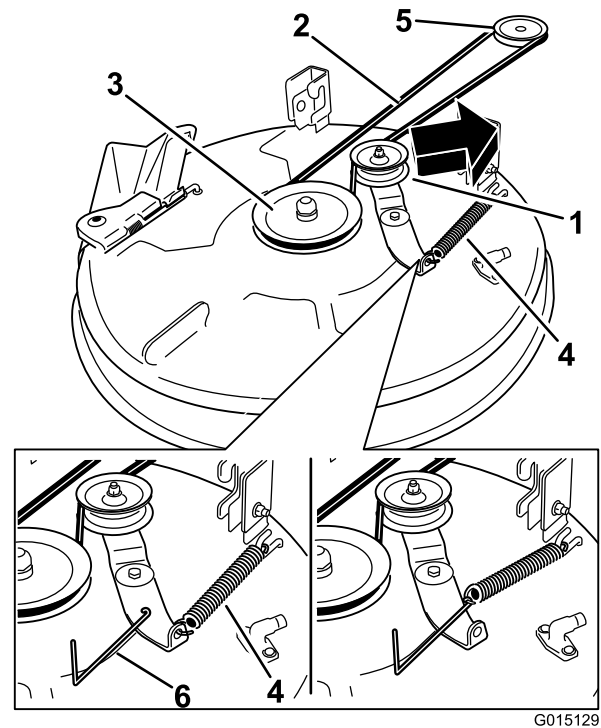

Figure 58
4. Using a spring-removal tool (Toro part no. 92-5771), remove the idler spring from the deck hook to remove tension on the idler pulley, and roll the belt off of the pulleys (Figure 58).
5. Route the new belt around the engine pulley and mower pulleys (Figure 58).
6. Using a spring removal tool (Toro part no. 92-5771), install the idler spring over the deck hook and placing tension on the idler pulley and the mower belt (Figure 58).